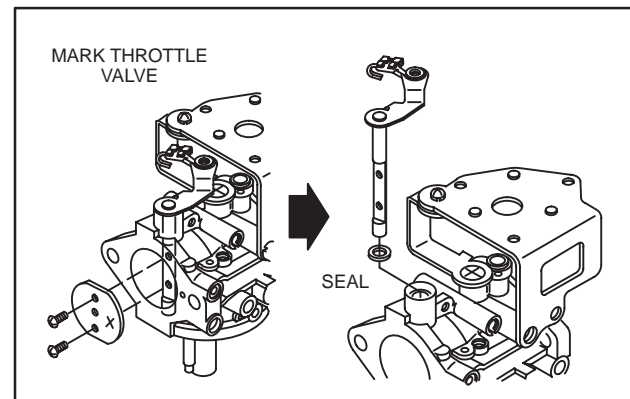

Fig. 37 – Removing Throttle Shaft
13. Remove two screws, throttle plate, throttle shaft and seal, Fig. 37.